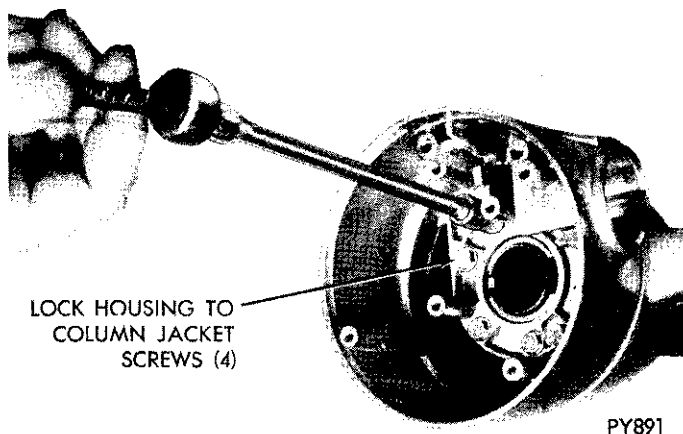

Fig. 13—Lock Housing to Column Jacket, Retaining Screws
(6) Remove four lock housing to column jacket hex head retaining screws and remove housing from jacket (Fig. 13).
nately in steps to insure proper seating of the housing on the jacket. Tighten to 80 inch-pounds (Fig. 13).